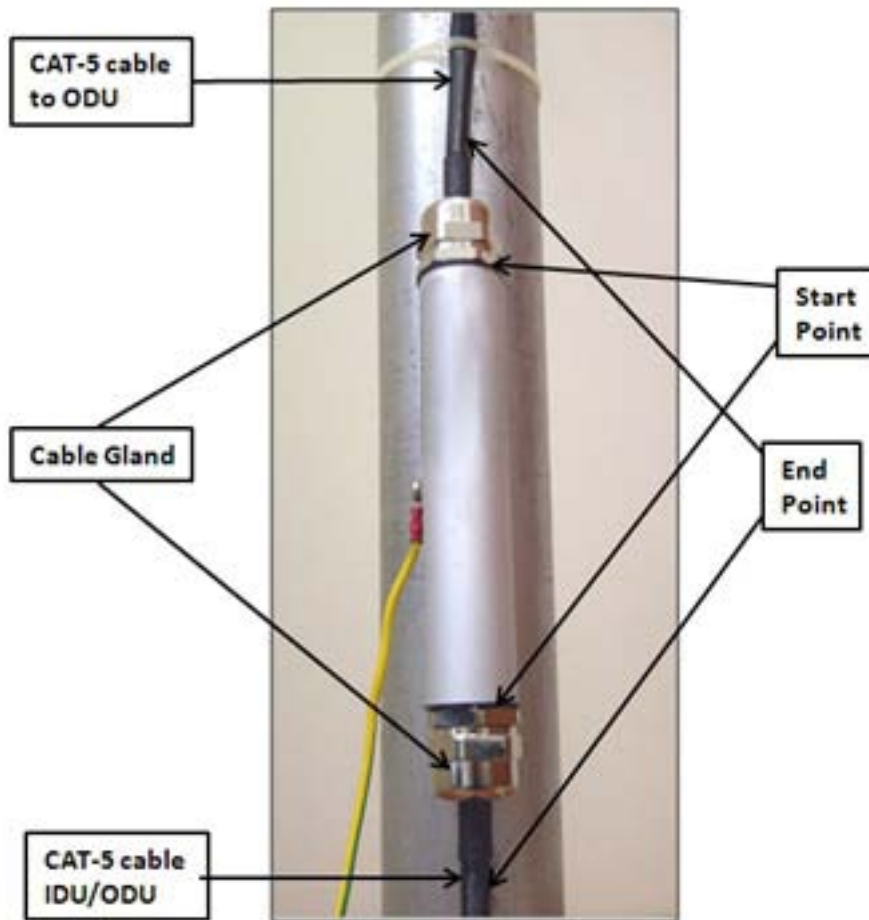

Figure 3-33: Start and End points for protective-taping the unit
4. Connect the tape with tacky side up on the cable gland cap and the CAT-5 cable. Start at **Start Point** at the bottom of the cable gland as shown in Figure 3-33. Finish at **End Point** of the CAT-5 cable, 2.5cm after the end of the shrink tubing. Stretch the tape and apply half-overlapped to form gap-free joint.